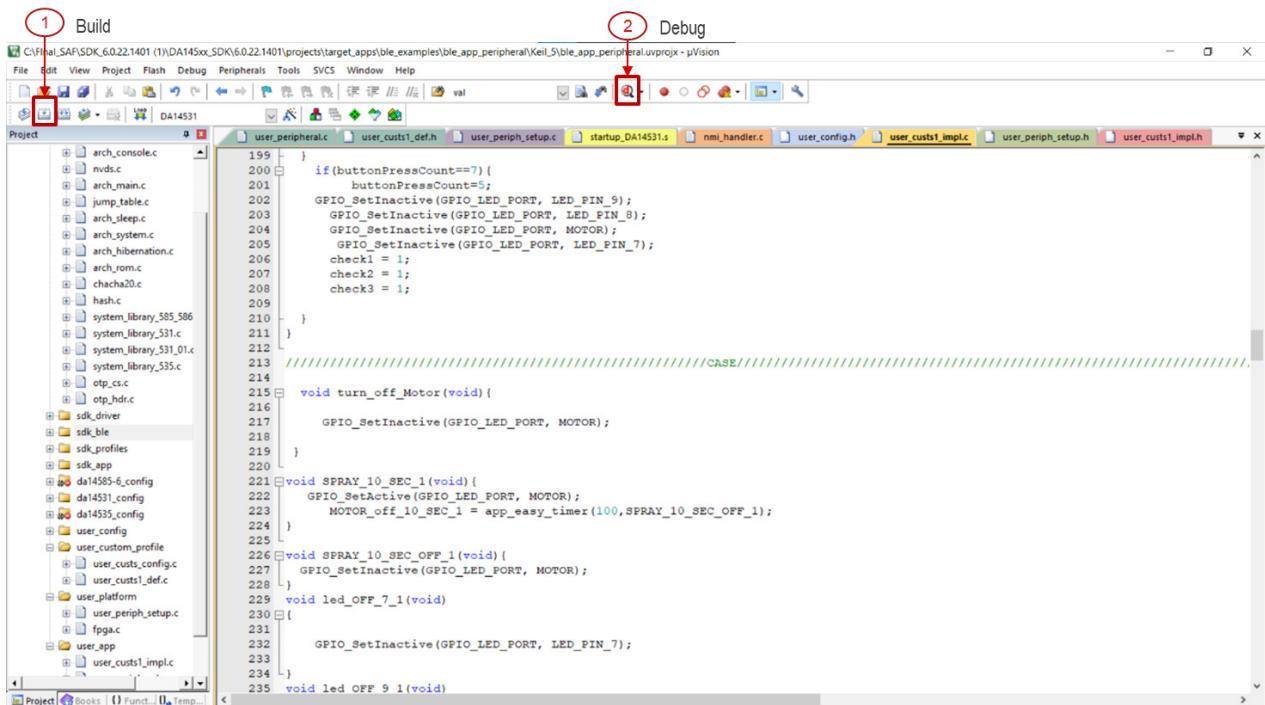

Figure 14. Build and Debug the Project
- When the project opens, click on the build icon (see Figure 14, item 1) or press F7 to build the project. Once the build is successful, click on the eye icon (see Figure 14, item 2) or press F5 to download the project.